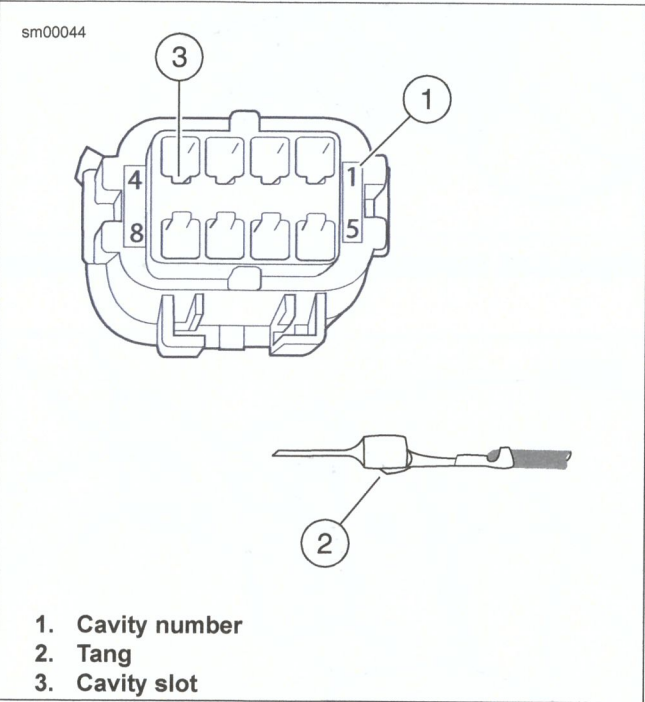

Figure A-16. Molex MX 150 Sealed Connector: Pin Cavities and Wire Terminal
See Figure A-16. Cavity numbers (1) are stamped on the housing at the ends of the cavity rows. Determine the cavity number by counting the cavities up or down along the row from each stamped number.
2. See Figure A-16. Install the terminal into the housing. Tang (2) engages slot (3).